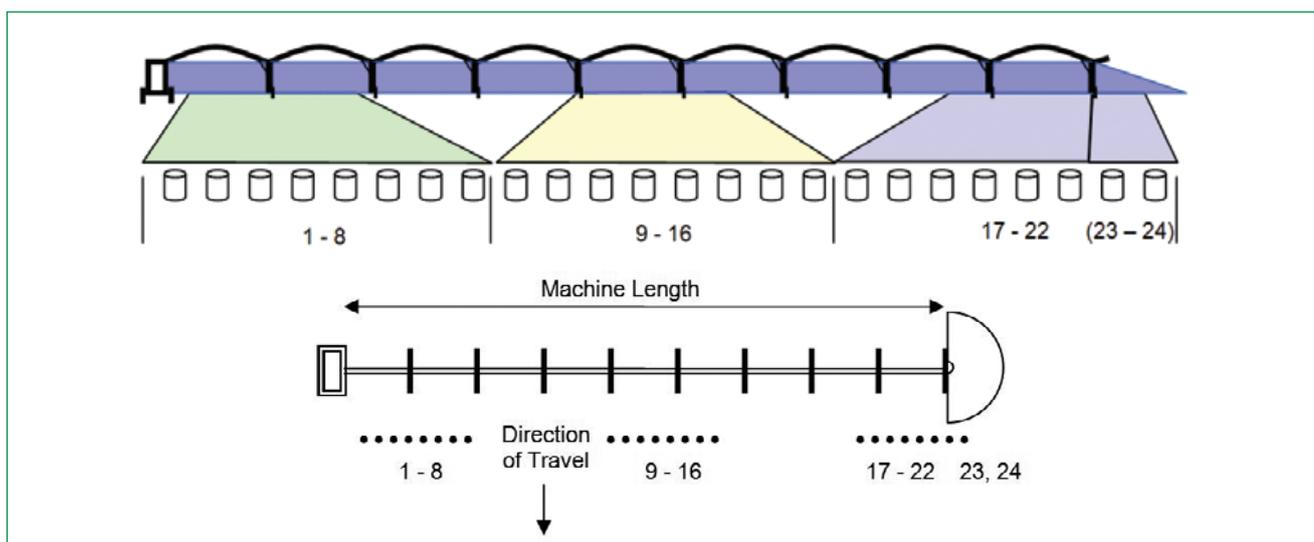

Figure 2.1. Layout of collectors along length of linear move irrigator
2. Arrange eight collector buckets at even spacing under the first span or two of the machine (see 1–8 in Figure 2.1).
3. Arrange eight more collector buckets at even spacing in the middle of the machine (see 9–16 in Figure 2.1).
4. Arrange eight more collector buckets under the last span or two of the machine (see 17–24 in Figure 2.1).
**NOTE:** If there is an end gun, arrange the last two collector buckets at even spacing between the end wheel track and the extent of significant wetting (see 23 and 24 in Figure 2.1).